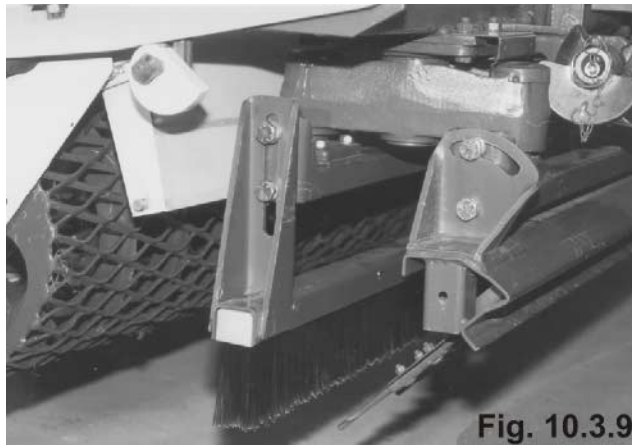

Fig. 10.3.9
- Undo the mounting bolts on both sides of the scraper bar (Fig. 10.3.9).